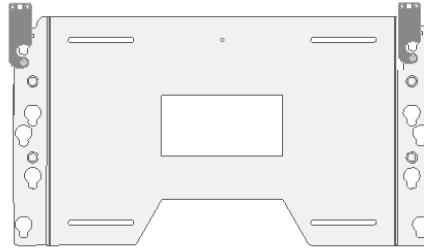

Figure 1 (See Table 1)
1. Prior to assembly, unpack carton completely and verify contents. Refer to Figure 1 and Table 1.